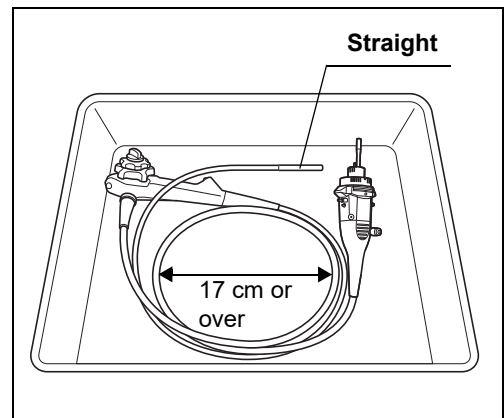

Figure 5.11
- Endoscope coil diameter (see Figure 5.11 in Section 5.6, "Connecting ALT-Pro leak test air tubes and endoscope")